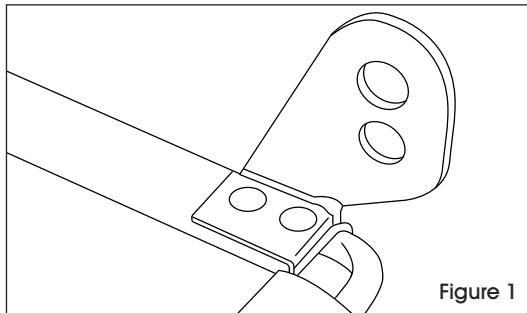

Figure 1
1. Line up one right bracket with the rear right side of hopper lip. (See Figure 1)